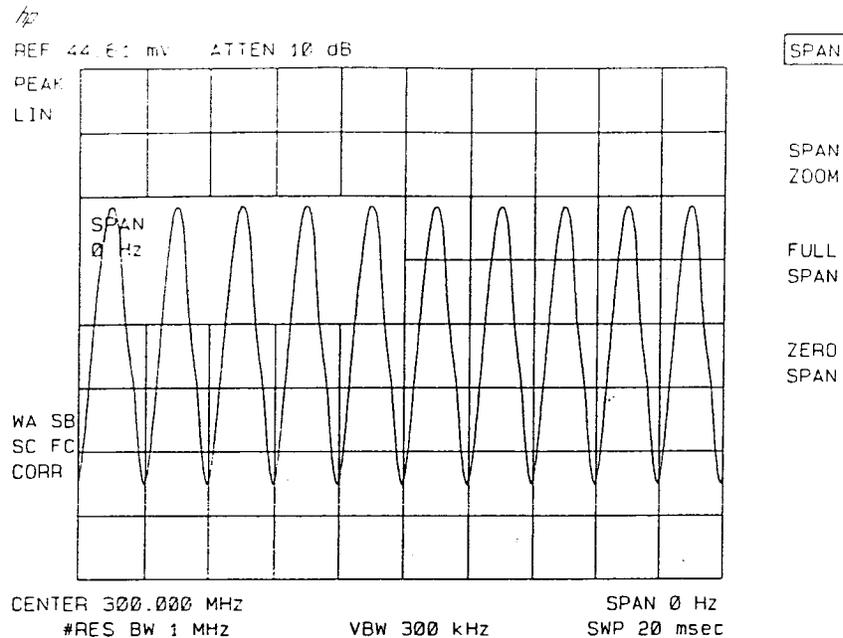

Figure 2-27. Measuring Modulation in Zero Span
5. To select zero span, either press **SPAN**, 0 **Hz** or press **ZERO SPAN**. See Figure 2-27. If the modulation is a steady tone (for example, from a signal generator), use video trigger to trigger on the waveform and stabilize the display. Adjust the sweep time to change the horizontal scale.